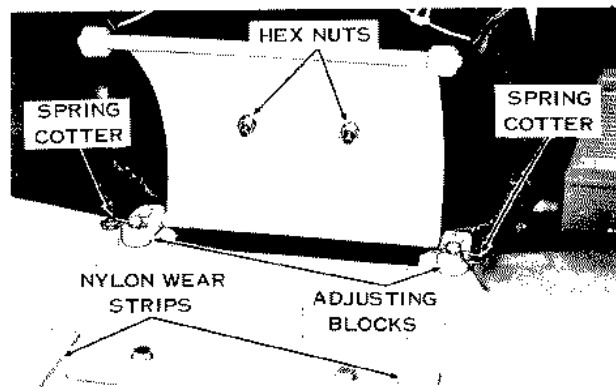

Figure 22
2. Remove spring cotter pins shown in Figure 22.
2. Remove the two hex nuts shown in Figure 22 then add or remove leaf springs as desired.
To remove the seat, remove the two spring cotter pins shown in Figure 22, and lift seat from tractor.